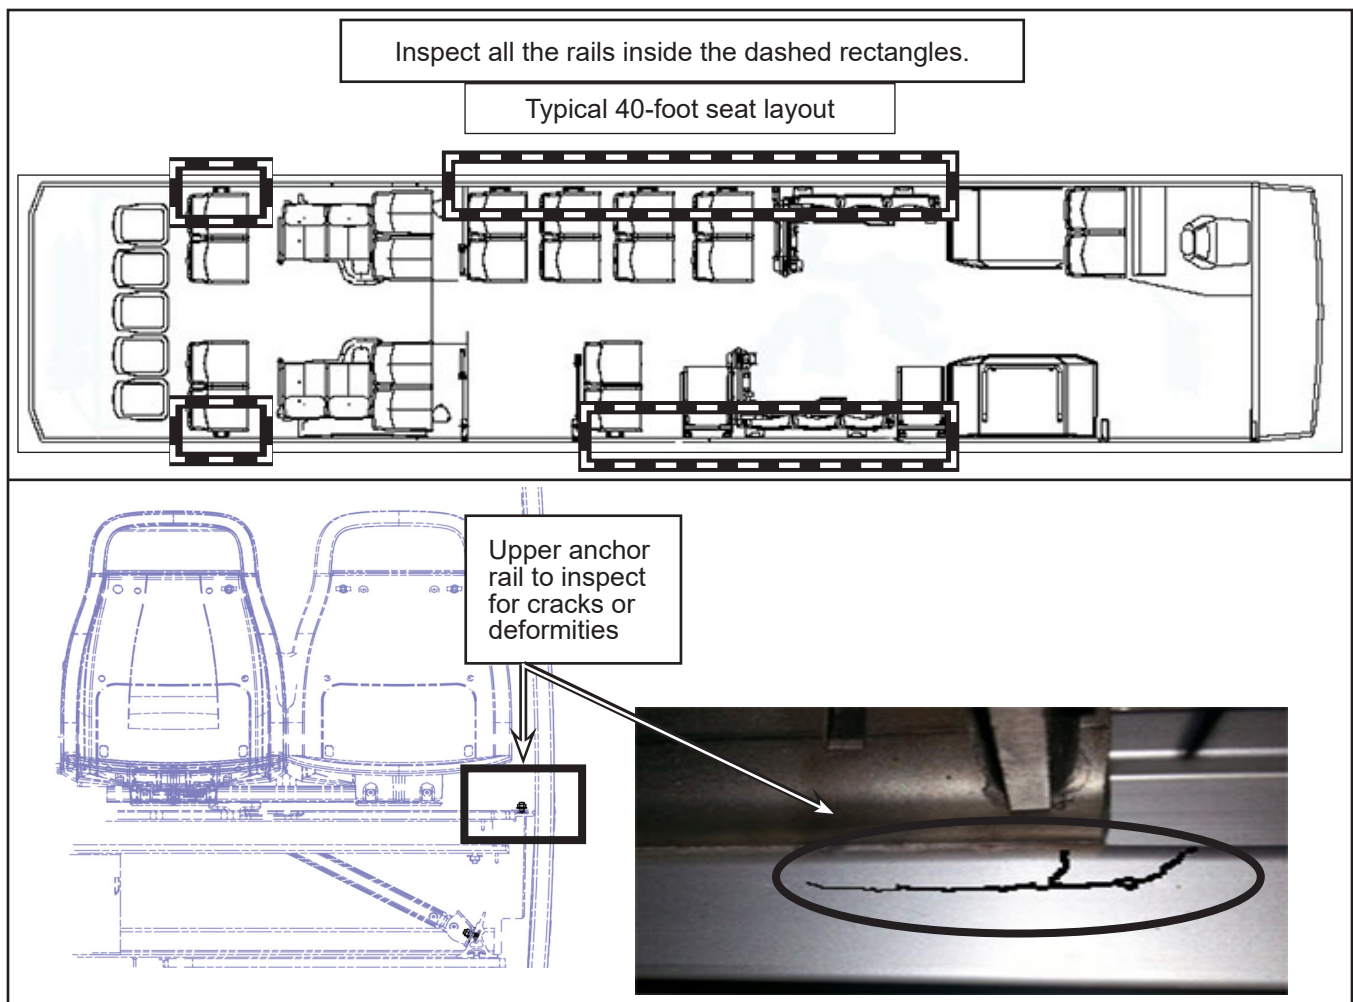

Figure 1 - Inspection Seats' Upper Rail
- 1.1. Visually inspect all the upper anchor rails located between the front wheelhouses and the rear of the vehicle for any cracks and/or deformities. See Figure 1.